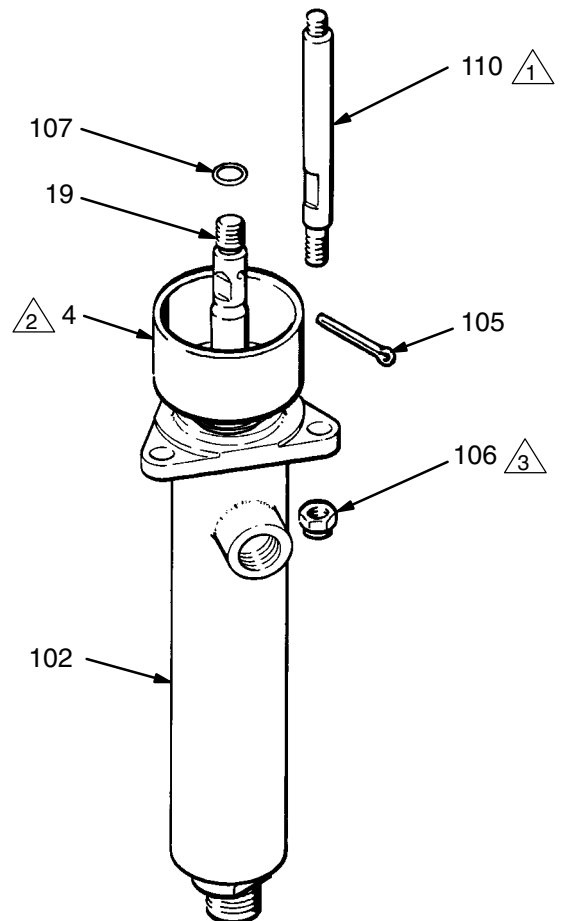

Fig. 3
3. Unscrew the tie rod locknuts (106) from the tie rods (110). Remove the cotter pin (105). Unscrew the displacement rod (19) from the air motor (101). Carefully pull the displacement pump (102) off the air motor (101). See Fig 3.
1. Screw the displacement rod (19) into the base of the air motor (101). Install the cotter pin (105). Orient the pump's fluid outlet to the air motor's air inlet as was noted in step 2 under **Disconnecting the Displacement Pump**. See Fig 3.
2. Position the displacement pump (102) on the tie rods (110). Screw the locknuts (106) onto the tie rods (110) loosely.
3. Mount the pump and reconnect all hoses. Reconnect the ground wire if it was disconnected during repair. Torque the packing nut/wet-cup (4) to 18–20 ft-lb (24–27 N.m). Fill the wet-cup with Graco Throat Seal Liquid or compatible solvent.
4. Tighten the tie rod locknuts (106) evenly, and torque to 25–30 ft-lb (34–41 N.m).